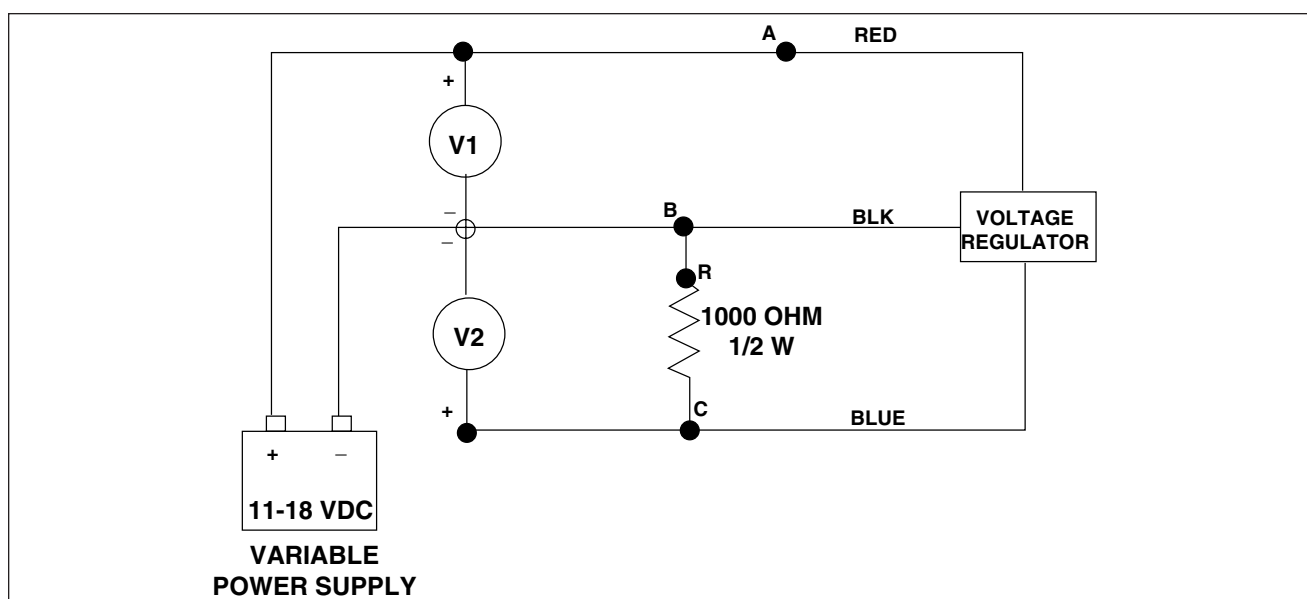

Figure 11-44. Lamar 14 Vdc Regulator Check
11-61. TESTING LAMAR 14 VOLT SYSTEM REGULATORS (Refer to Figure 11-44)
- B. Connect negative voltmeter lead to regulator ground wire (black). Incorporate a 1000 ohm, 1/2 watt resistor into the circuit. (Refer to figure 11-44.)